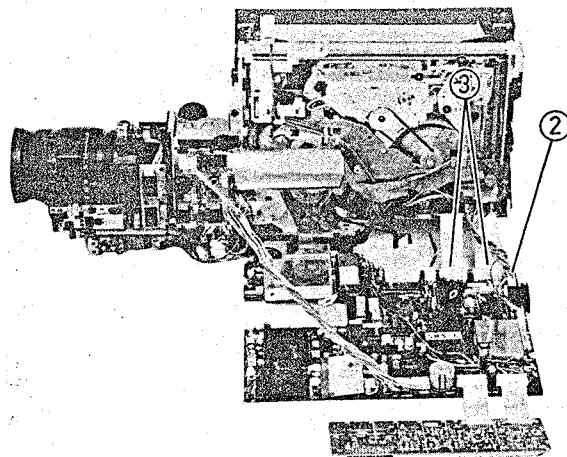
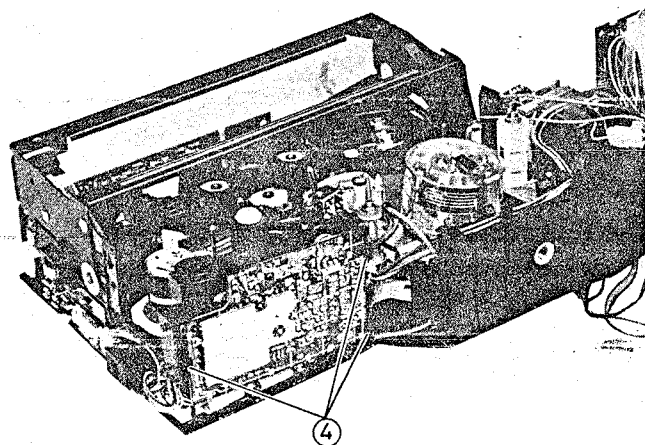

Fig. 2-17 Audio Circuit Board Removal
Fig. 2-18 Audio Circuit Board Removal
Audio Circuit Board Removal (Figs. 2-17, 2-18, 2-19)
2. Disconnect connector CN903. (See Fig. 2-17)
3. Disconnect two (2) flat cables (CN408, CN107).
4. Release three (3) tabs and open the audio circuit board. (See Fig. 2-18)